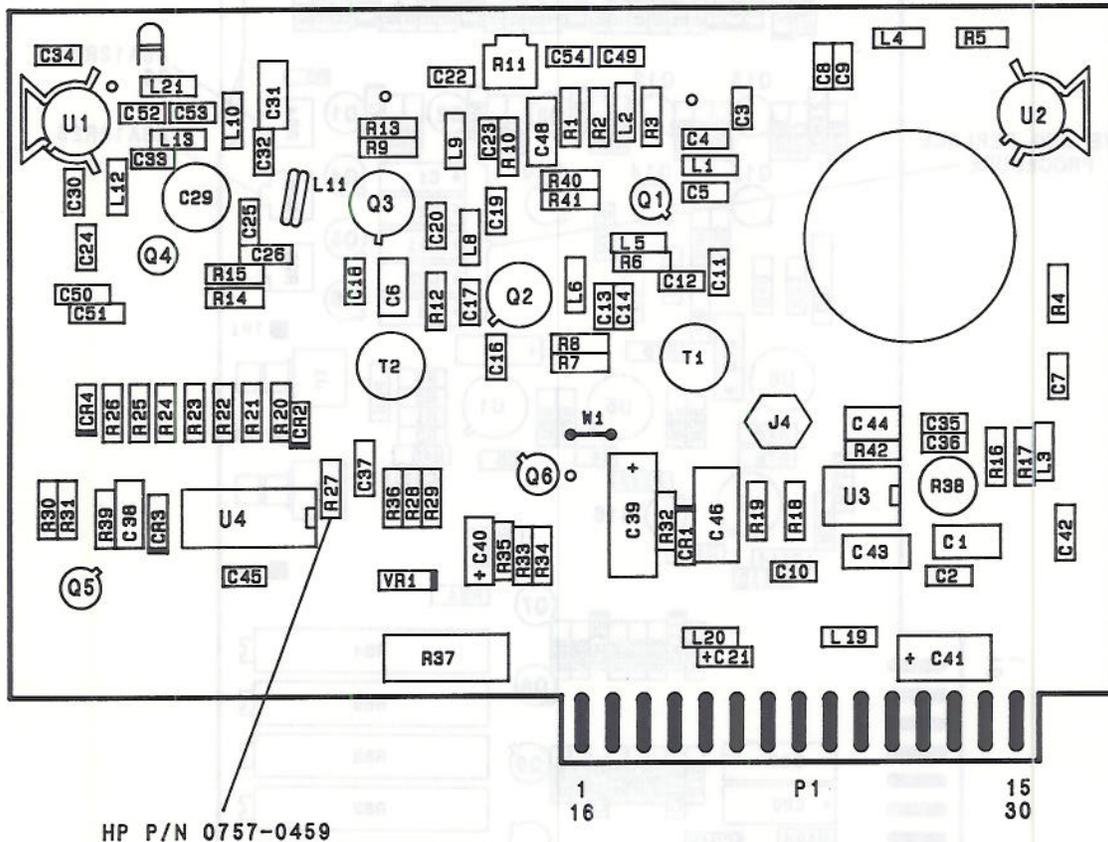

Figure 8. A6A9A1 Phase Lock (A6A9A1R27 Location)
64. Locate and remove A6A9A1R27 from A6A9 Phase Lock (Figure 8).